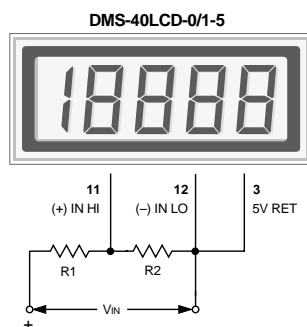

Figure 4. Input Attenuation Circuit
- 3. Engineering Scaling:** For measuring voltages greater than the full scale input range of a given meter, the input signal must be attenuated. A simple voltage divider (similar to that shown in Figure 4) will scale the input to within the range of the selected meter. R1 and R2 should be precision, $\pm 1\%$, metal film resistors with absolute TCR's less than 50ppm/°C. See Ap Note 4 for more information on engineering scaling.